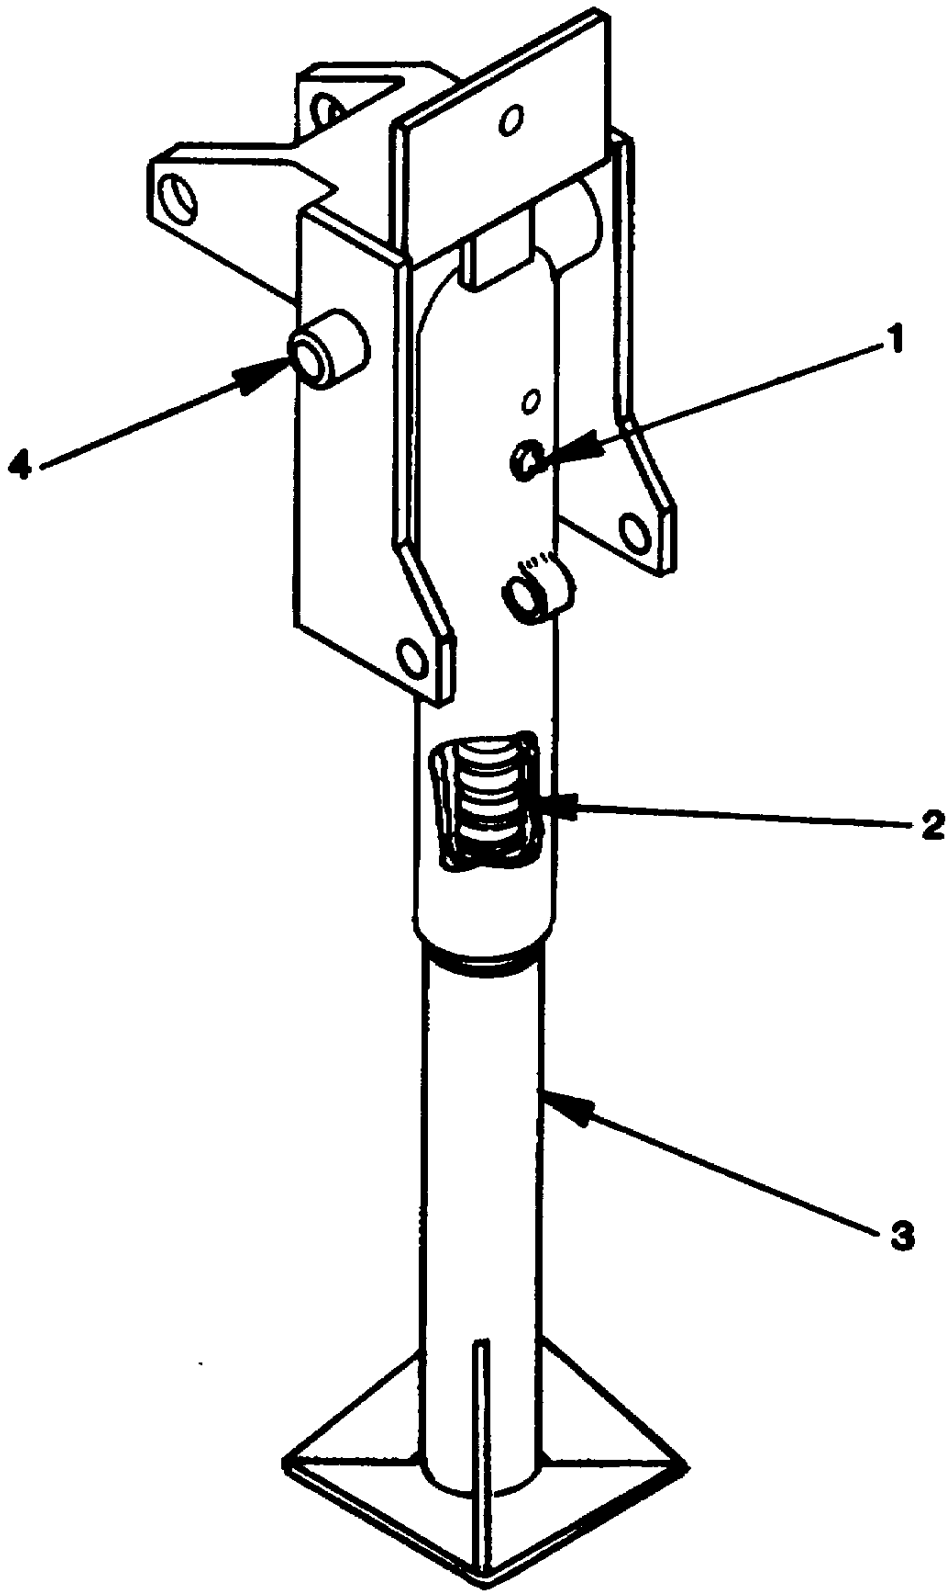

Figure 4-3. Rear Leg Prop Lubrication Points.
Installation of the power plants AN/MJQ-32 and AN/MJQ-33 at a worksite involves positioning the trailer and grounding the power plants. Since both power plant installation procedures are alike, only the AN/MJQ-33 will be shown in figure 4-3.
- (1) Clean lubrication fitting (1, figure 4-3) and area around lubrication points with PO-680 (item 1, Appendix F) or equivalent.
- (2) Inject sufficient GAA (item 6, Appendix F) grease into hydraulic fitting to lubricate screw threads (2) inside leg base (3).